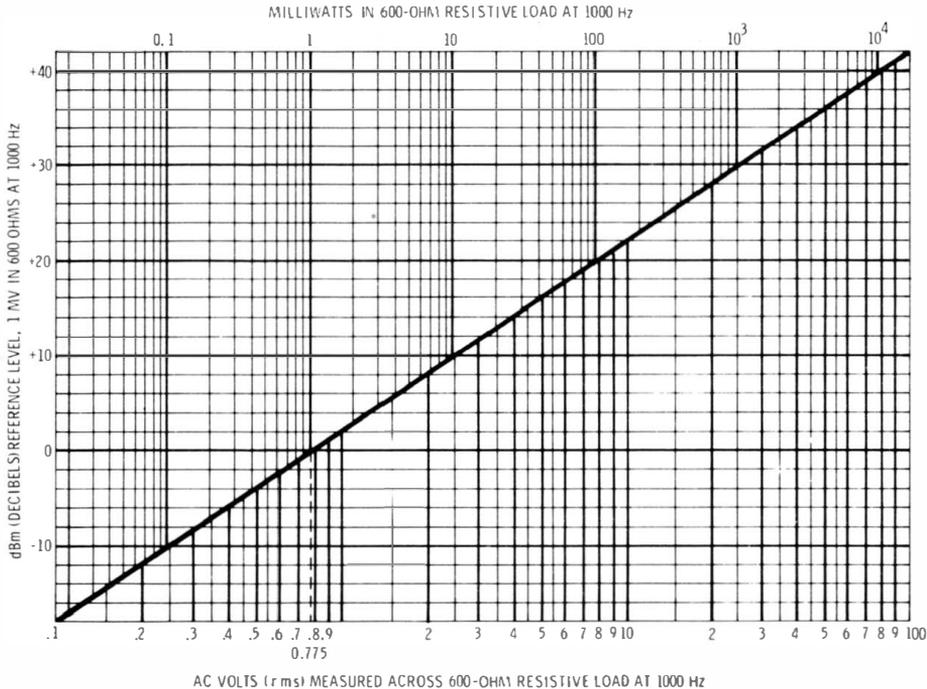

Fig. 7-8. Graph relating dBm to ac rms voltages.
On the 0- to 15-volt scale of the vtvm being discussed, 0 dB will be 7.74 volts. When an ac range lower or higher than the 0- to 15-V range is used, 10 dB should be subtracted from or added to the value indicated for each change in range position. For example, the indication of 0 dB when the RANGE switch is set to 50 V means the level is actually +10 dB; or an indication of 0 dB when the range switch is set to the 5-V range means the level is -10 dB. When the reference level of 1 milliwatt (mW) in 600 ohms is the standard for 0 dB, this level is usually referred to as 0 dBm. The graph shown in Fig. 7-8 makes it convenient to convert ac voltage readings across 600 ohms to decibel readings, assuming that the 0-dB reference is 1 mW.
* dB is the increment to be added algebraically to the dBm value read from Fig. 7-8.
graph of Fig. 7-8, it is noted that 9 ac rms volts in a 600-ohm circuit is 21 dBm. The correction factor which must be added (subtracted, in this case, since 6000 is higher than 600) is: